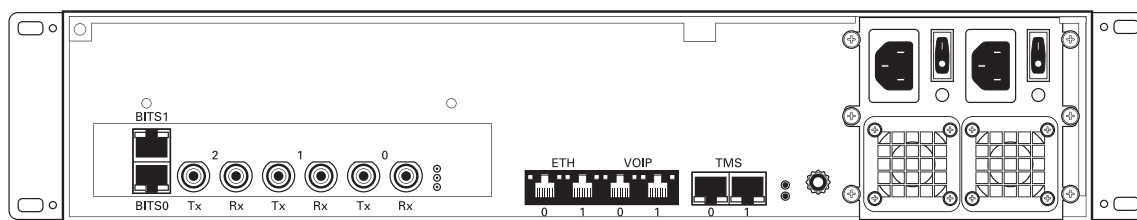

Figure 2.7 DS3 Interface to the PSTN
A TMG7800-DS3 with 3 sets of BNC connectors enables the connection to DS3 lines. See figure 2.7 on page 22.
1. Start with the Dual BNC port pair #0 (right-most) as shown in figure 2.7 on page 22. Connect one pair of BNC cables between this port and the DS3 line.